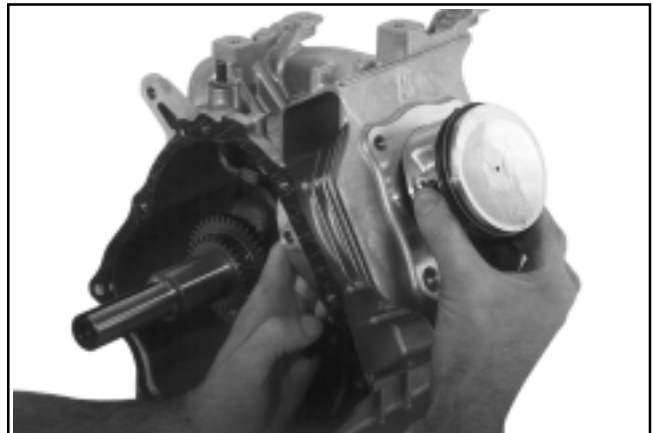

Figure 9-84. Removing Piston.
2. Carefully remove the connecting rod and piston assembly from the cylinder bore. See Figure 9-84.